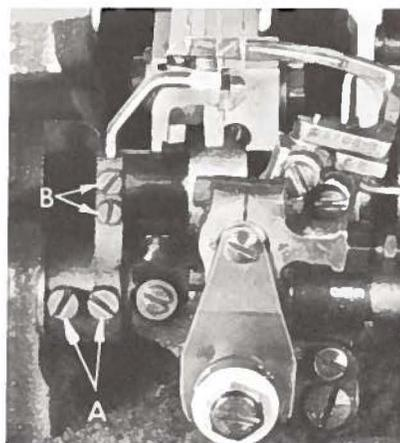

Fig. 9
Set the front needle guard so that it pushes the left 602 stitch needle back toward the path of the front looper as it moves behind the needle. The looper may brush but not pick at this needle. It should be set as low as possible, yet have its vertical face push the needle until the point of the looper is just past the left side of the needle. The front needle guard should not contact the rear needle guard or right needle at any time. To move guard forward or rearward, loosen screws (A, Fig. 9), rotate needle guard holder as required and retighten screws. To raise, lower or rotate needle guard, loosen screws (B), reposition as necessary and retighten screws after guard is properly set.